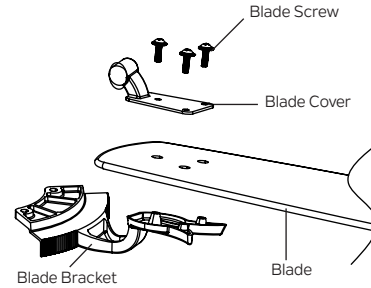

Fig. 18
**Step 1.** Position the blade over the blade bracket with the threaded post showing. Make sure the bottom edge of the blade is fully seated against the blade bracket. Place blade cover on top of the blade, positioning the holes over the threaded posts. Tighten with three screws from the hardware pack to secure the blade to the blade bracket. (Fig.18)